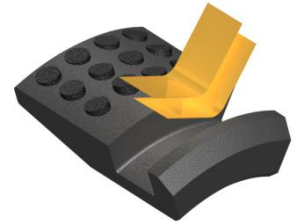

Fig. 6
**NOTE9:** Uses two (2ea) slip springs per slip (Fig. 6).